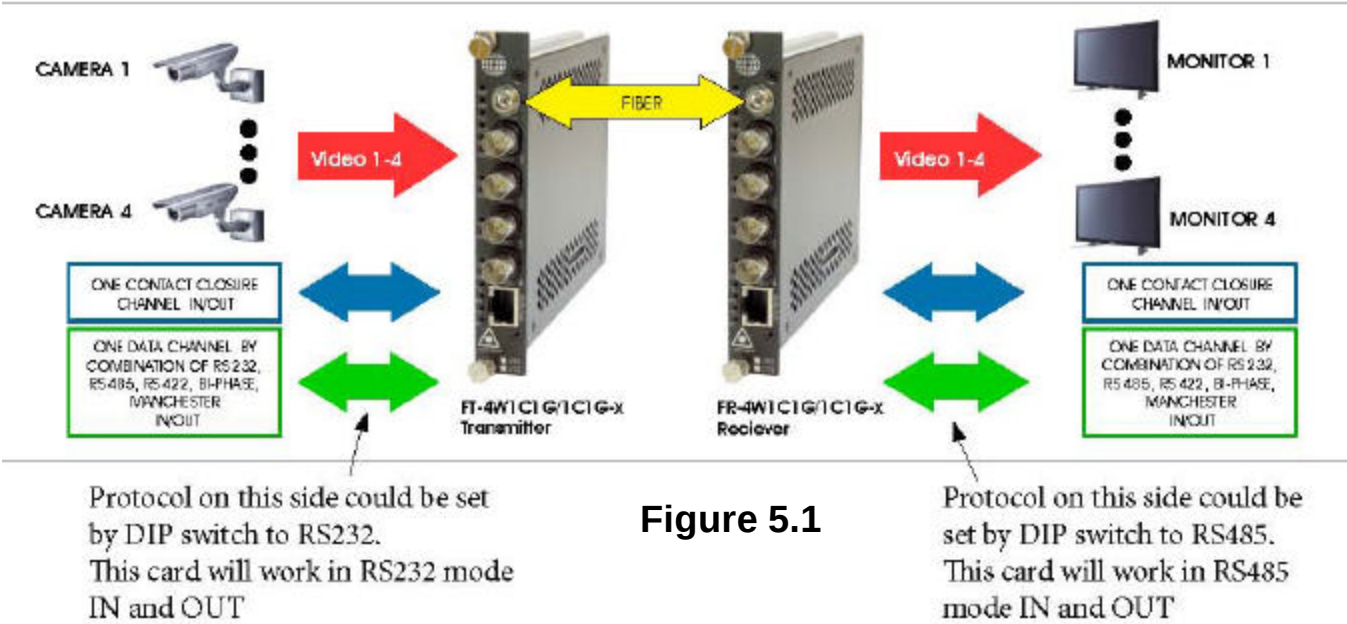
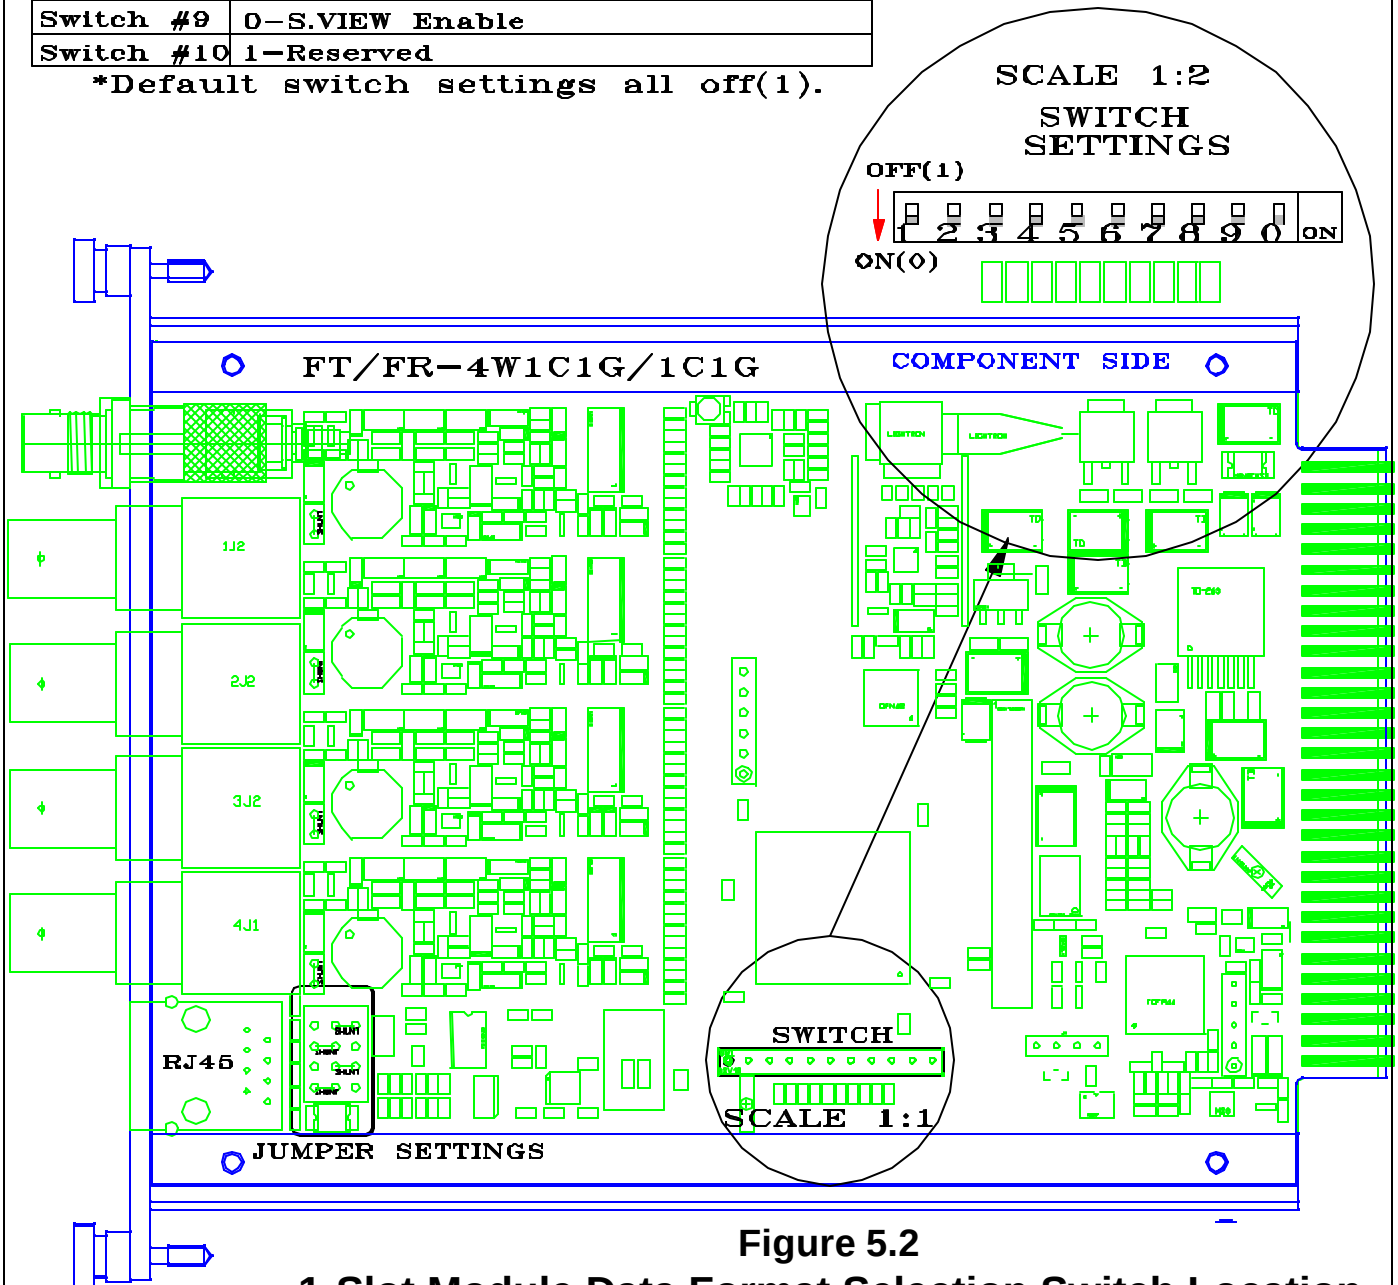

Figure 5.1
Figure 5.2
The sections below illustrate how to change the various contact mapping conditions. For jumper and switch locations see Figure 5.2
A group of 10 switches is located on the bottom center of the module’s circuit card (see Figure 5.2). The left two (2) of these switches control the data format that is transmitted/received. These switches on both the transmitter and receiver must be set the same in order to have proper data communications format between them. FT and FR modules can be configuring different for data format conversion (see Figure 5.1)